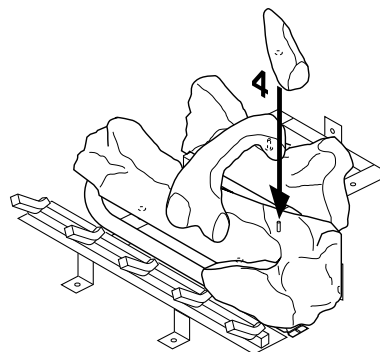

Figure 48 - Installing Log No. 4
4. Place log #4 (right log) on the pin on the right side of front log as shown in Figure 48.